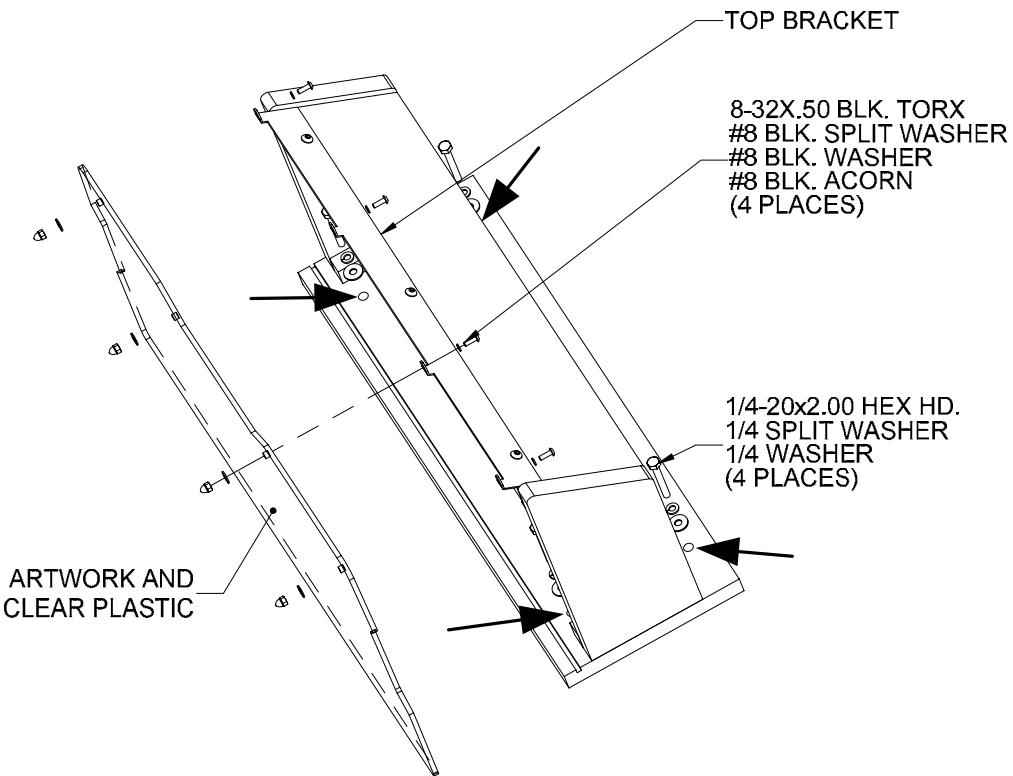

Figure 3. Marquee Assembly
4. To install the marquee on top of the cabinet, refer to Figure 3 on the next page. Remove the four Torx screws with nuts and washers that secure the artwork and clear plastic to the marquee top bracket. Remove the artwork and clear plastic to access the inside of the marquee. The bolts and washers for mounting the marquee should be packed inside the marquee assembly.
5. Position the marquee on top of the cabinet and secure it in place with four 1/4-20 bolts with washers, as shown in Figure 3 on the following page. The four large arrows in the figure show the locations for the four mounting bolts.